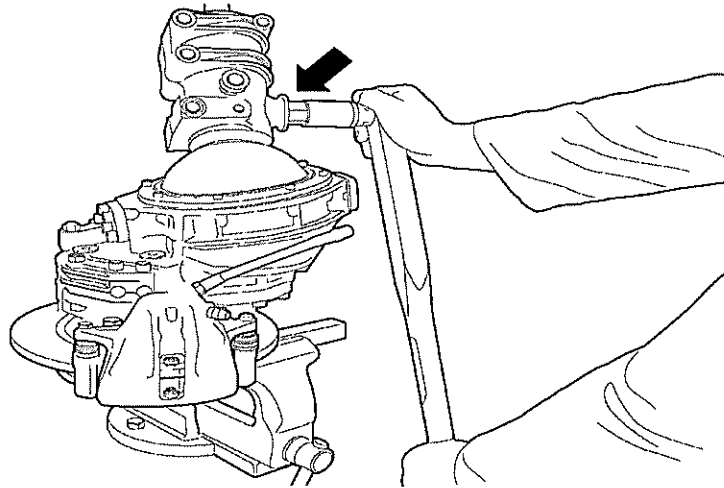

Fig 8 Removing spring centring bolt
- 8.16 Remove spring support bolt (see Fig 8).